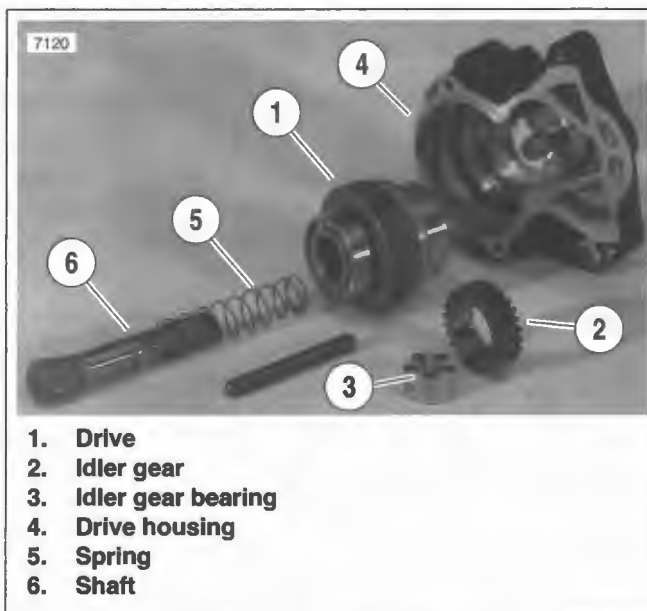

Figure 5-17. Clutch Assembly
17. See Figure 5-17. Remove drive (1), idler gear (2) and idler gear bearing (3). Remove O-ring from groove in drive housing (4).
18. Remove spring (5) and shaft (6).